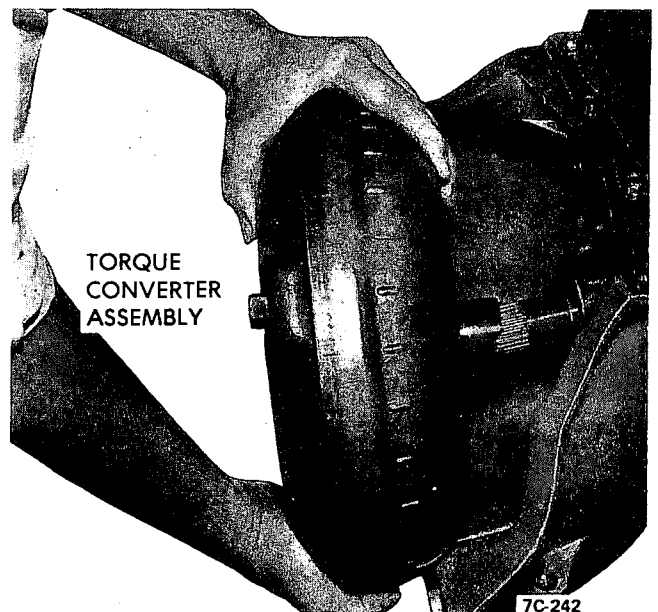

Figure 7C-193
4. Loosen hex nut. See Figure 7C-192. When nut is fully loosened the reading obtained on the dial indicator will be converter end clearance. If clearance is .050" or over and the oil has the appearance of having been mixed with aluminum paint, replace the converter.